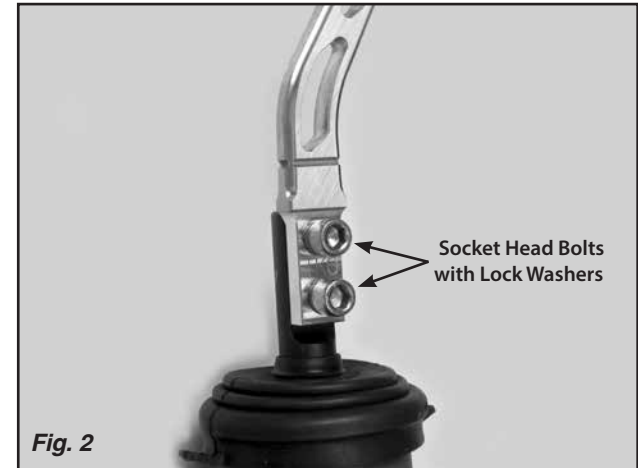

Fig. 2
**Step 3:** Install the new Lokar Shifter Lever onto the transmission's shifter mechanism, using the provided socket head bolts and lock washers. **Fig. 2**